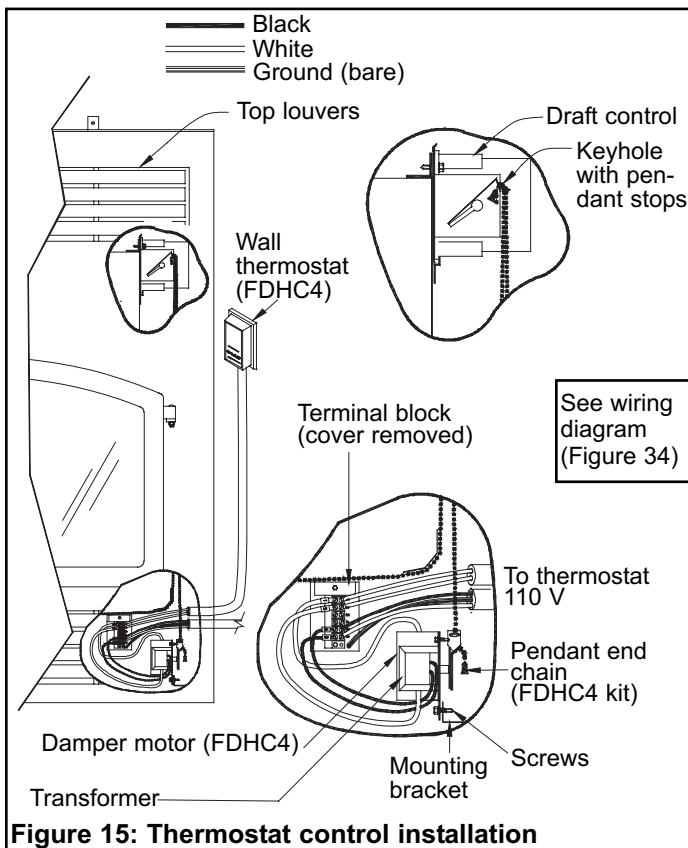

Figure 15: Thermostat control installation
2. The damper motor and transformer are mounted on a bracket in the bottom right hand corner of the fireplace (see Figure 15).
5. Wire the thermostat as shown in (Figure 15), making sure the wall control is sufficiently away from the direct radiation of the fireplace. Make certain that it is at least 10 ft. away from the fireplace, but in the same room.